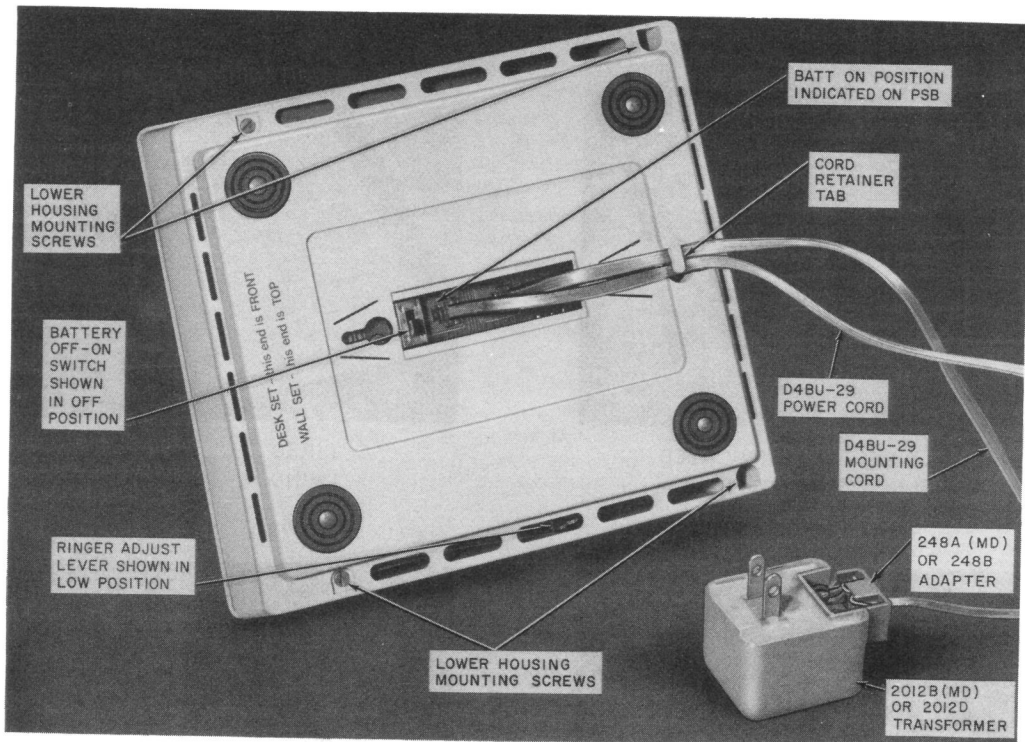

Fig. 2—2960A01M (MD) Telephone Set, Bottom View
- Battery OFF-ON switch (located on the bottom of the set, Fig. 2), should be in the OFF position when set is not in service.
(MD) or 2012D transformer (Fig. 2) and plug into 110-117 volt ac outlet not controlled by a switch (continuous ac power is required). Plug one end of the D4BU-29 line cord (maximum 14 feet) into the power jack on the bottom of the set (Fig. 15D) and the other end into the 248A or B adapter attached to the transformer.
**3.06** The set is shipped from the factory with the battery switch in the OFF position. After all wiring changes and modifications have been completed, tilt the set up and move the battery switch arm (visible in the bottom view of the set, Fig. 2) to the ON position.
**Note:** The switch ON position is indicated on the bottom of the printed wiring board, (Fig. 2) and if switch is not placed in ON position the set will not record or automatically dial.
**Note:** Dress all cords under retainer tab at bottom rear of housing, Fig. 2.